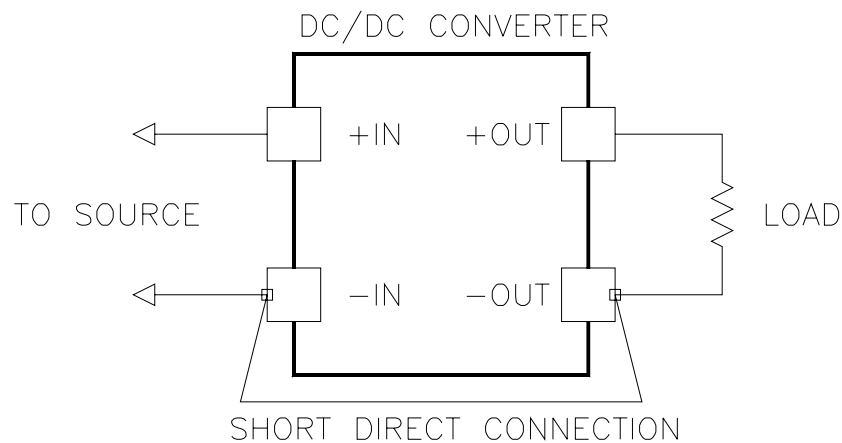

Figure 4a.
1. Tie the ground connection directly between the I/O pins with no intervening wiring length that will add inductance (see Figure 4a).